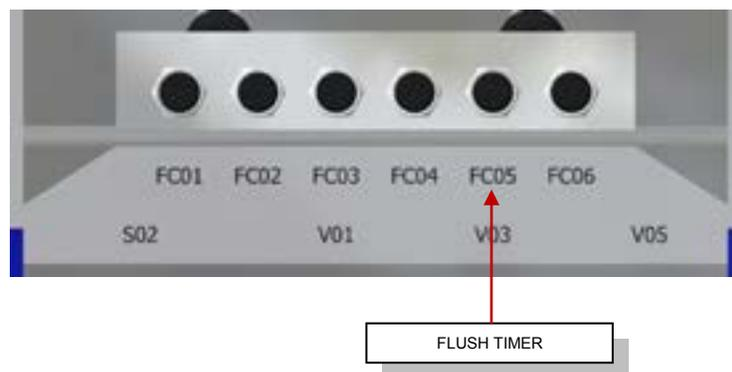

Fig. 15
**Flush Timer adjustment:** (see figure 15)